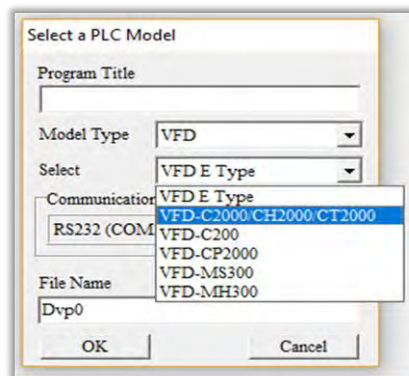

Figure 16-6
Step 4: The "Device settings" window will appear after clicking, see Figure 16-6 below. You can now enter the project title and filename, and select the device and communication settings to be used.